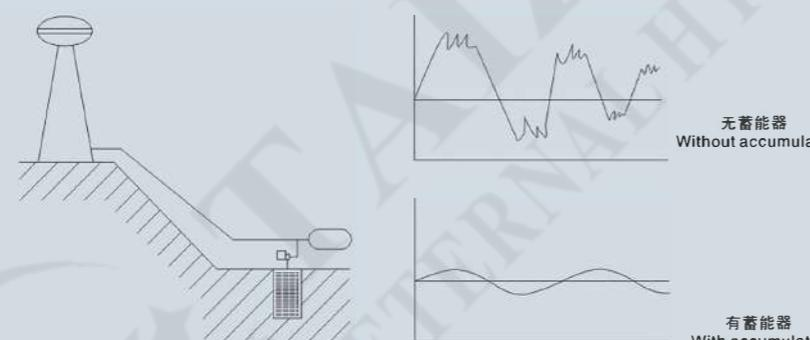

图7 Fig.7
5. 阀的快速关闭会产生冲击波(水锤现象)，导致管子、接头、阀等部件的损坏。使用蓄能器能大大地减少中击。典型用途为水管(图7)、燃油和油的远距离管道、洗涤设备等。
Rapid valve closure can produce shock waves(water hammer)resulting in over pressurization of pipes, joints, valves etc. The use of a suitable accumulator can neutralize or significantly reduce the shock. Typical applications are water(fig.7), fuel and oil distribution circuits, washing equipment etc.